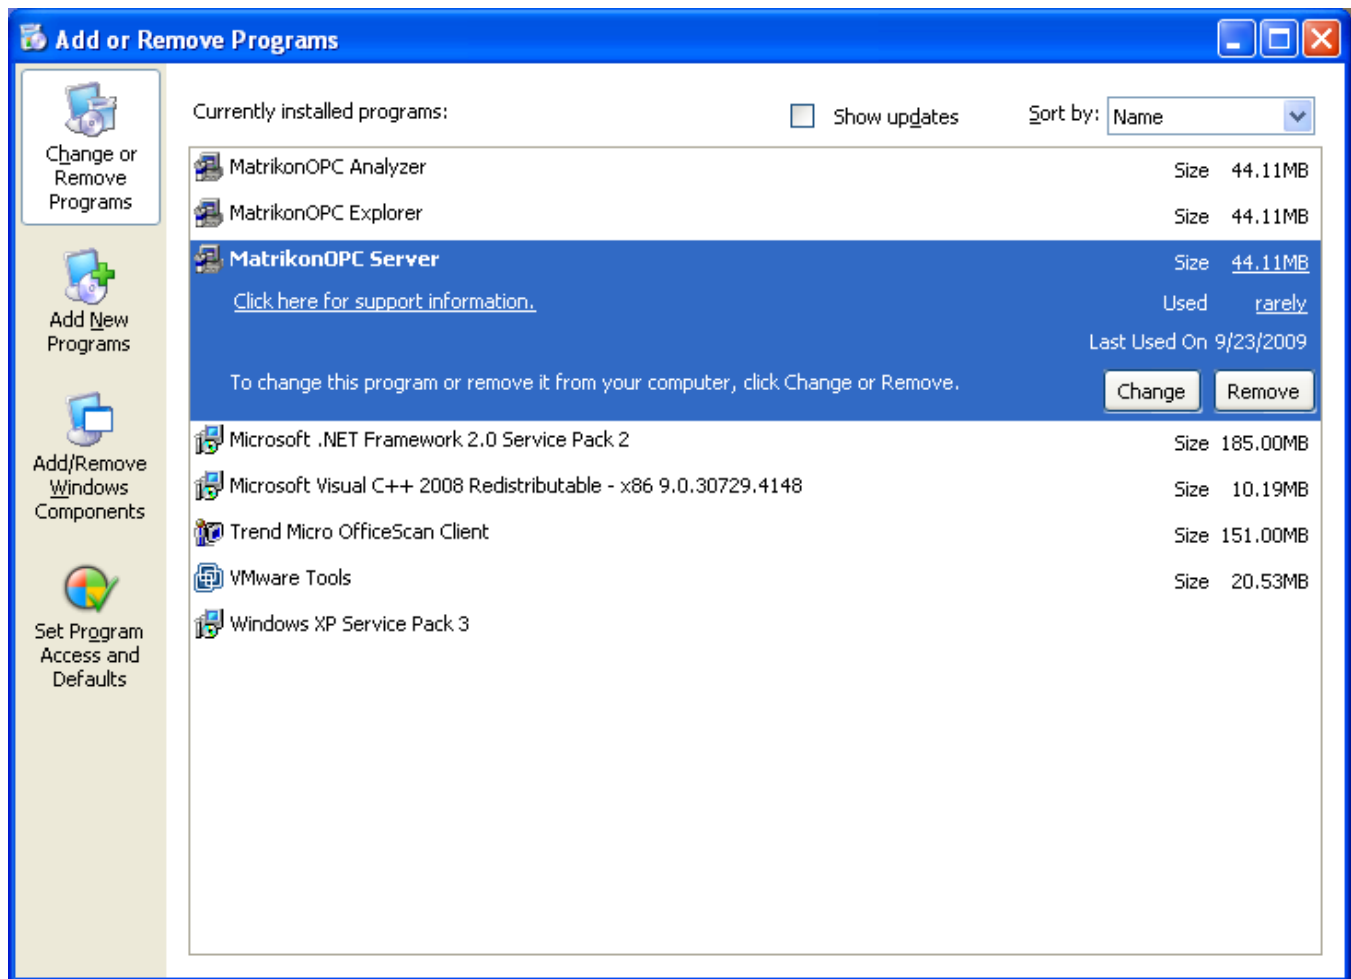

Figure 99 - Add or Remove Programs
3. The **Add or Remove Programs** window (Figure 99) is displayed.